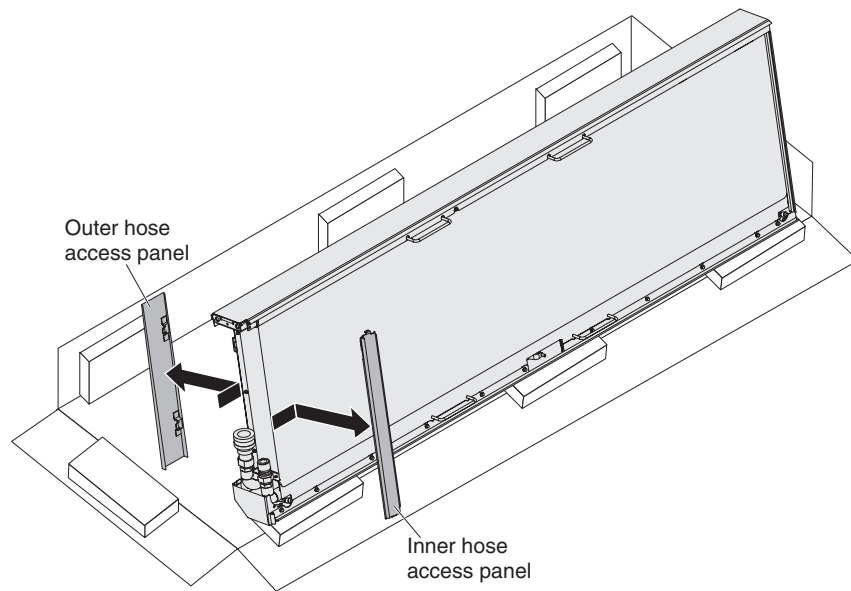

Figure 57. Rotating the heat exchanger 90° and removing the hose access panels
6. With one person holding the heat exchanger steady on the package inserts, have another person remove the inner and outer hose access panels. Push the panels up and out to remove them. See Figure 57. Set the hose access panels aside.